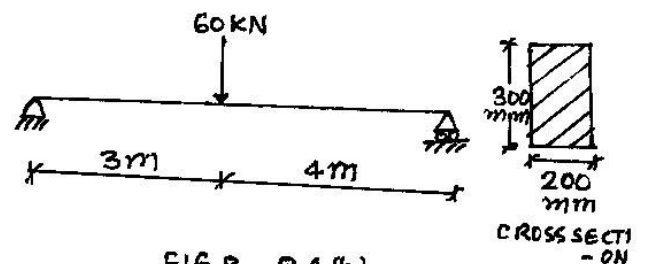

FIG 8. Q 4 (b)
- (b) Find out maximum bending stresses at top and bottom of beam as shown in **fig.8**. **05**